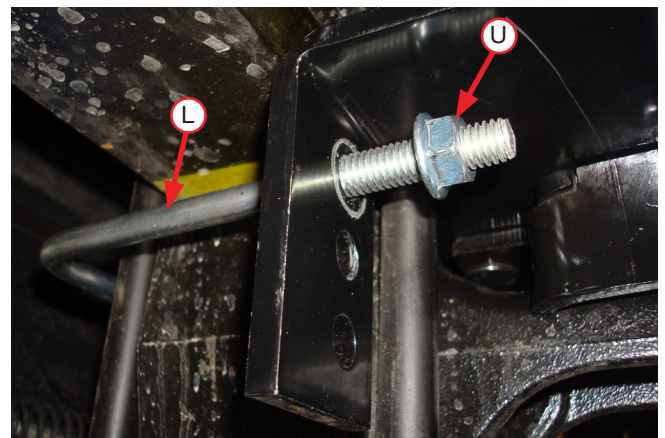

Fig. 29
3. Install the U-bolts (L) around the stock leaf spring U-bolts and insert through the closest set of holes that will position the U-bolts closest to the leaf spring (Fig. 29). Cap with 3/8"-16 serrated flange lock nuts (U). Snug the bolts evenly, just tight enough to hold the lower bracket flush against the stock U-bolts.